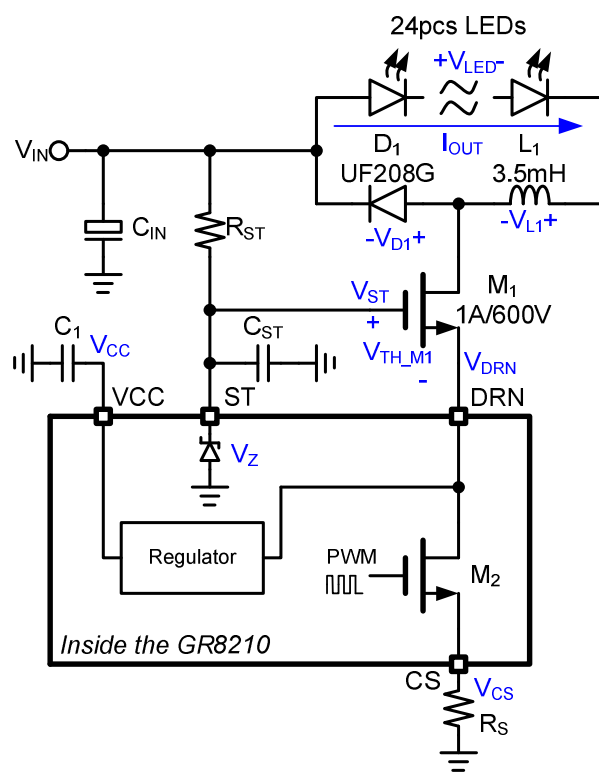
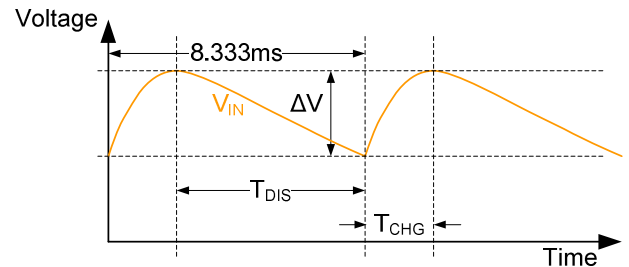

Figure-1 The brief schematic to explain the system operation.
Figure-6 The waveform of input voltage in the  $C_{IN}$ .
\* Refer to the Figure-1.
GR8210 is a cascade topology constant current PWM converter for high brightness LED driving. In the Figure-1, after the  $V_{IN}$  ramps up, the  $V_{ST}$  also ramps up to the target with a delay time. This voltage turns on the  $M_1$  when its level greater than the  $V_{TH\_M1}$ , then the  $V_{CC}$  was created.  $M_2$  was turned on in the on period of the first cycle. The current flows through LEDs,  $L_1$ ,  $M_1$ ,  $M_2$ ,  $R_S$ , and back to  $C_{IN}$  finally. In the end of this period, the  $M_2$  might be to turn off when the  $V_{CS}$  reached 0.25V. A fixed off time was followed as the off period of the first cycle. During the off period, the current flows through LEDs,  $L_1$  and  $D_1$ . A new cycle will start when the fixed off time finish.
An internal regulator in the GR8210 could generate a 5V voltage source to supply the operating current for control circuit. The input voltage of the internal regulator is the  $V_{DRN}$ .  $V_{CC}$  regulated in the  $M_2$  off period due to the  $V_{DRN}$  is approximately zero volt in the  $M_2$  on period. Therefore, a capacitor, shown in the Figure-1, located to the  $V_{CC}$  to hold on the  $V_{CC}$  during the  $M_2$  on period is necessary. The ceramic type of capacitor is suitable for  $V_{CC}$  retaining, a  $1\mu F$  capacitor could supply the operating current of the control circuit for tens microsecond with a very good voltage regulation.
The different height of  $V_{CS}$  means the different  $I_{OUT}$  that shown in the Figure-1. The line voltage compensation function was applied in the GR8210 to improve the output current regulation. The  $V_{P1}$  to  $V_{P3}$  in the Figure-4 illustrates the compensation results by the line voltage compensation.
In the Figure-1, the  $C_{IN}$  retained the  $V_{IN}$  with ac part, the waveform was shown as Figure-6. Before the input capacitance decision, the users must define the input voltage ripple in the system. A useful rule
The (6) to (8) could be used to estimate the capacitance of  $C_{IN}$  that shown in the Figure-1.
The external NMOSFET in the Figure-1,  $M_1$ , was connected to the DRN of the GR8210. Most of the input voltage was across the drain and source terminals of  $M_1$ . The specifications of a suitable device are, the continuous current range of 1A to 2A, the maximum drain to source voltage is 600V and the maximum gate to source voltage is 20V. To choose an external NMOSFET with better specifications than above will not improve the efficiency significantly.
The users could apply a digital duty modulation signal into DIM pin to use the PWM dimming. The  $I_{OUT}$ , shown in the Figure-1, would regulate in the high state of PWM signal and stop regulating in the low state of PWM signal.
Figure-7 The waveforms of  $V_{IN}$ ,  $I_{OUT}$  and  $I_{OUT\_AVG}$  that shown in Figure-1. These waveforms illustrate the switching dimming procedure and behavior.